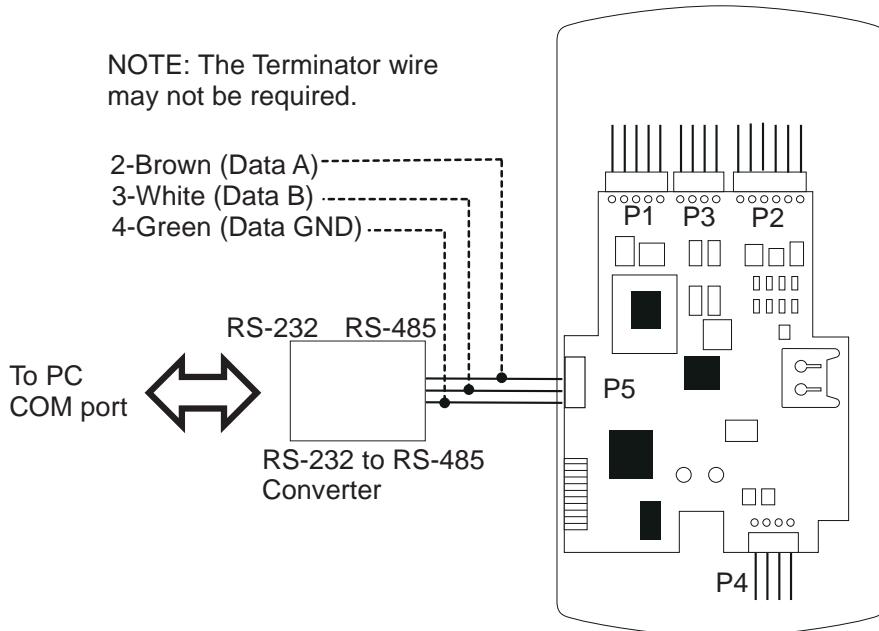

Figure 3-8 Connecting the prox.pad plus to a PC COM Port
The prox.pad plus is equipped with RS-485 communications with a data rate of 19200 bits/sec. This allows you to connect the unit to a personal computer (PC) either via the computer's COM (serial) port or over a computer network to manage the system using Hub Manager Professional (version 5 or higher) software. To connect the prox.pad plus unit to a computer COM port (which is RS-232), an RS-232 to RS-485 converter is required. To connect the prox.pad plus unit via a computer network, the IEI Gateway device is required. **The maximum distance from the RS-485 device is 4,000 feet using the specified cable.** NOTE: The Terminator wire may not be required. Figures 3-8 and 3-9 show examples of both connection types. Please see the instructions for your RS-232 to RS-485 converter or the instructions for the IEI Gateway for details about those devices. For details, refer to EIA RS-485 specifications.